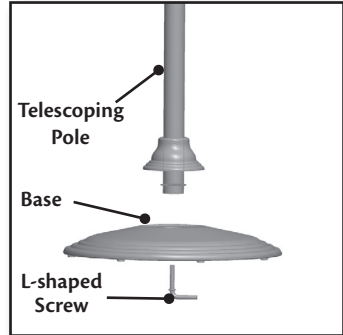

Figure 7
2. Remove the L-shaped screw from the telescoping pole by turning it counter clockwise. Figure 7.